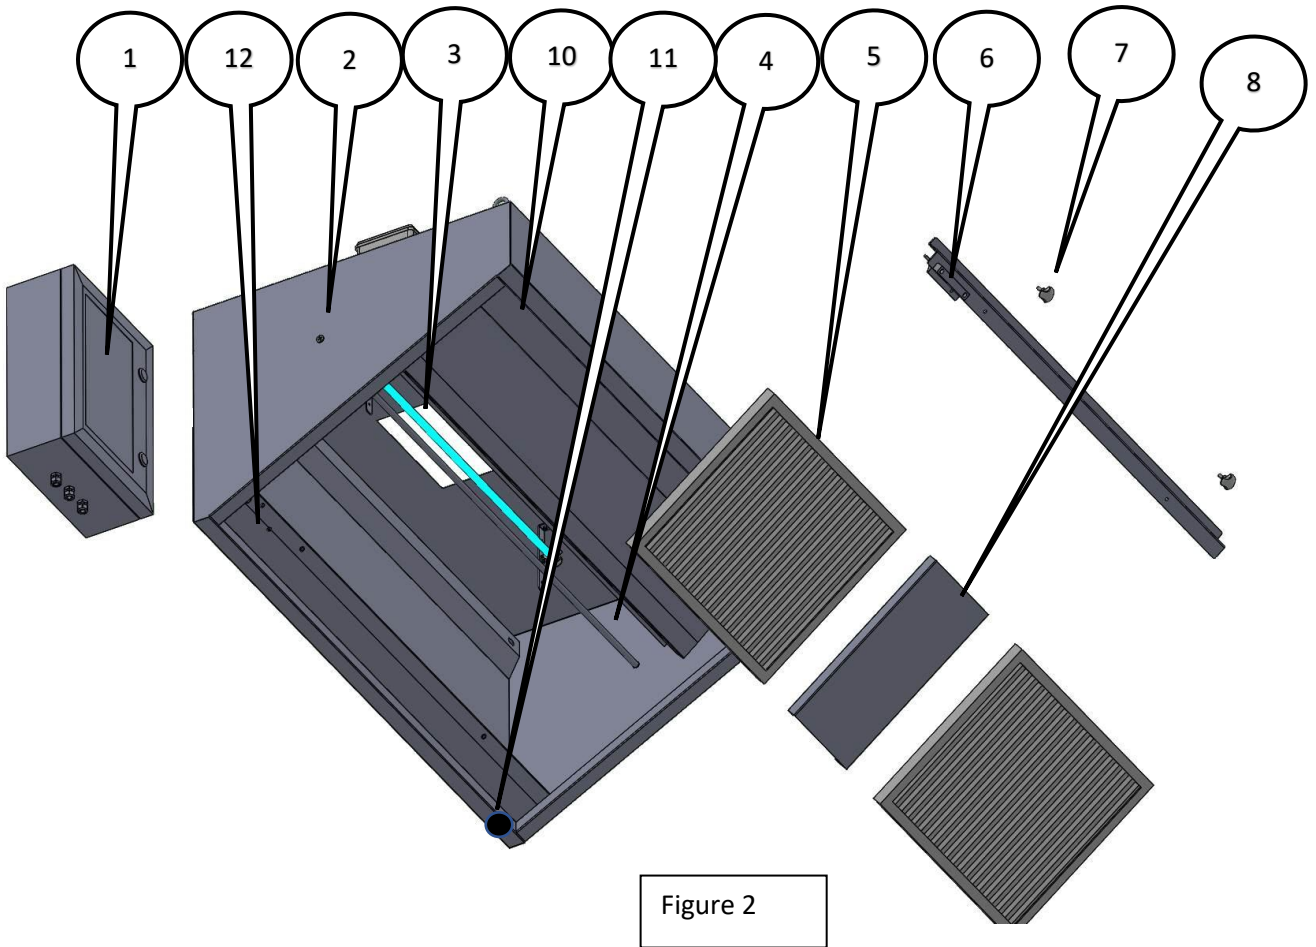

Figure 2
- the first one is installed on the safety bar (see figure 2 point N°6) which stops the operation of the lamps when the indicated bar is removed.
Before activating the control panel, make sure that the UV-C lamps have been correctly installed and that the filters and filter separators with safety bar and relative handwheels have been installed correctly (see figure 2 points n ° 6 and n ° 7).